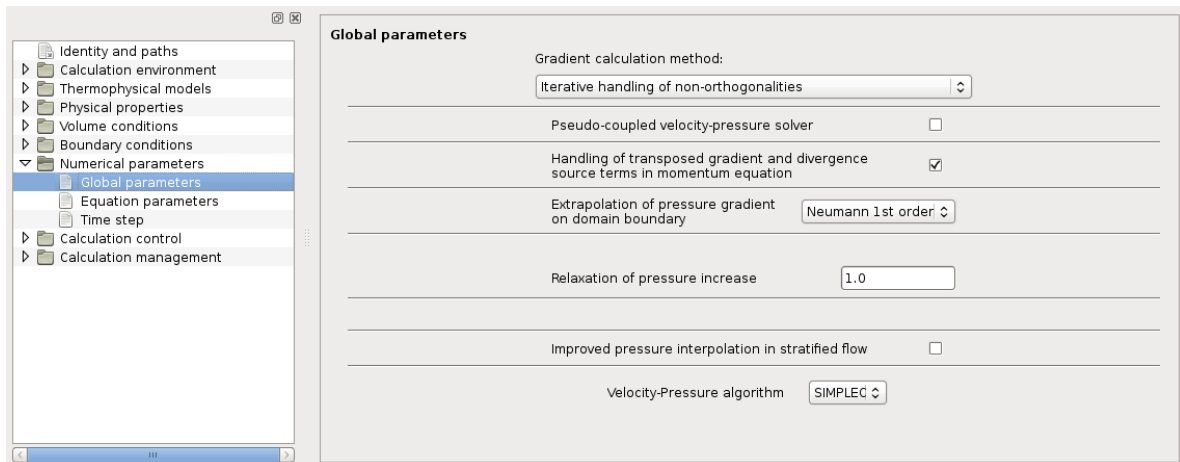
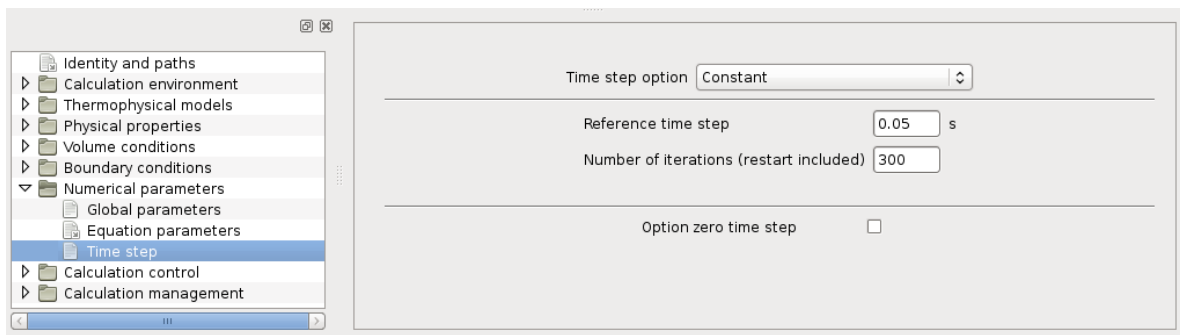

Figure 20: Global resolution parameters
Figure 22: Time step settings
- Numerical parameters: number and type of time steps, and advanced parameters for the numerical solution of the equations, see Figure 20 to Figure 22.